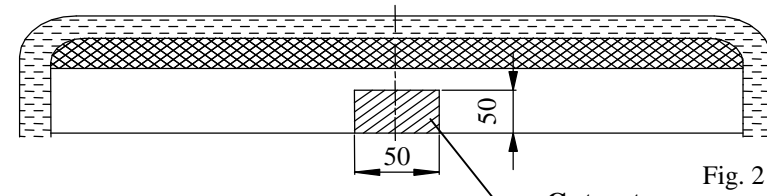

Fig. 2
4. The main bar of the towing hitch (pos. 1) put into the boot and through already made four holes A fix with ball bracket (pos. 4) using bolts M10x35mm (pos. 9) from accessories.
5. From below the car put distance sleeves L= 58mm (pos. 5), and next through holes B fix using bolts M10x90mm – pos. 8 (use big washers – pos. 10).
6. From the bumper side through holes C drill holes $\varnothing 1\text{mm}$ and fix using bolts M10x35mm (pos. 9) from accessories (use big washers – pos. 10).
7. Install the bumper after cut out of its fragment (see fig. 2).